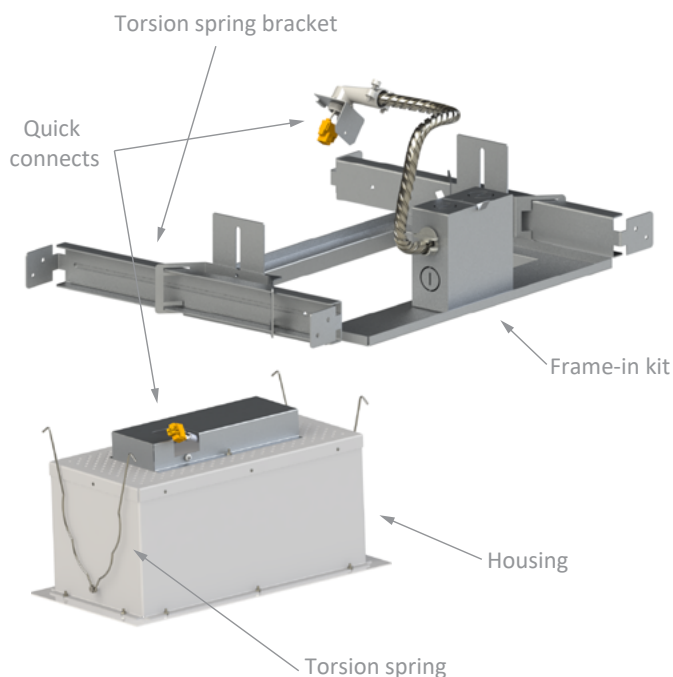

FIGURE 1
- Remove housing from frame-in kit (Figure 1)
- Mount frame-in kit to ceiling (Figure 1)